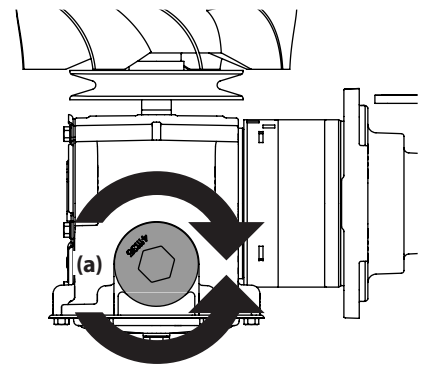

Figure 40
- Place a suitable container under the drain plug (a) on the transmission. Remove the drain plug (a) and allow the transmission oil to drain. See Figure 40.